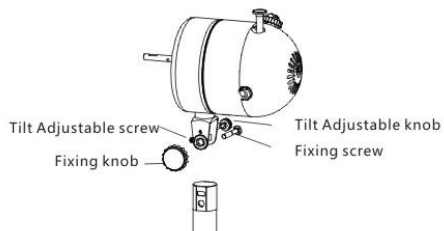

Fig 2
5. Reinsert the tilting head set screw and tighten it by turning it in a clockwise direction.(Fig 2)